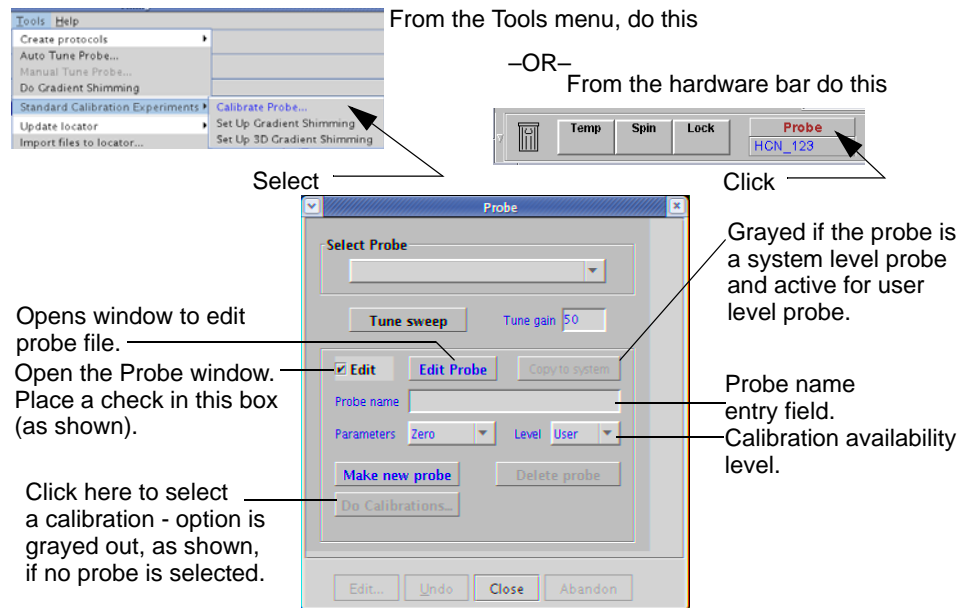

Figure 15. Calibrating a Probe
2. The probe selection window will appear, see Figure 15.
The User level calibration file can be written to the system level directory, if the user has write permission to the system level directory, by clicking on the **Copy to system** button, see Figure 15.
5. Do one of the following (refer to Figure 15 as needed):
Refer to Figure 15 as needed.
1. Click the **Probe** button, see Figure 15 on the hardware bar in the VnmrJ interface, or click **Tools** on the VnmrJ menu bar, select **Standard Calibration Experiments**, and select **Calibrate probe**.